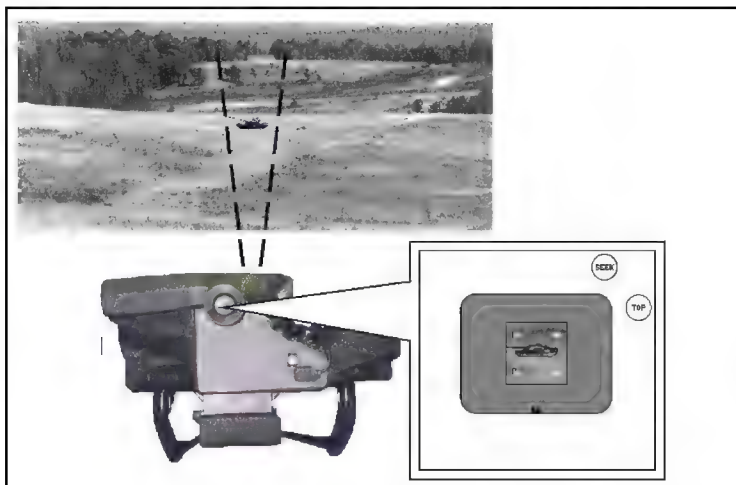

Figure E-40. Seeker field-of-view image and area of coverage.
(3) **Seeker Field-of-View.** Seeker FOV provides an IR image with about 9x magnification (Figure E-40). The seeker FOV has a limited coverage area and image resolution, and should be used only for engaging targets